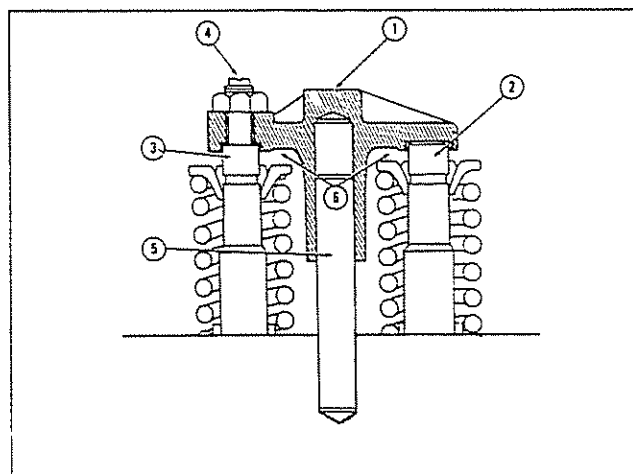

Fig. 2-56, (K21924). Valve crosshead
1. Loosen the valve crosshead adjusting screw locknut and back off the screw (4, Fig. 2-56) one turn.
1. Loosen the adjusting screw locknut, back off the screw (4, Fig. 2-56) one turn.
2. Use light finger pressure at the rocker lever contact surface (1) to hold the crosshead in contact with the valve stem (2). The adjusting screw should not touch the valve stem (3) at this point.
3. Turn down the adjusting screw until it touches the valve stem (3).
5. Check the clearance (6) between the crosshead and the valve spring retainer with a gauge. There must be a minimum of 0.025 inch [0.64 mm] clearance at this point.